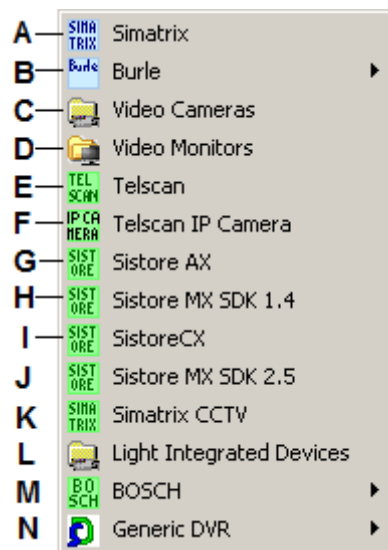

Fig 4 CCTV components menu
The following Fig 4 illustrates the menu options and the corresponding CCTV components.
2. In the menu that appears, select the **Video Camera** folder icon  to add a folder (→ Fig 4 at p.8).